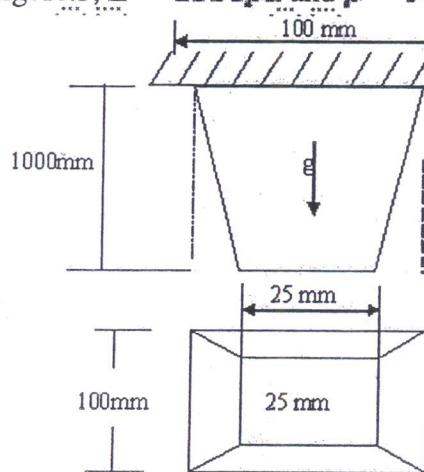

Figure.3
3. Determine the deflection at the free end under its own weight using three elements shown in figure.3,  $E = 200 \text{ Gpa}$  and  $\rho = 7800 \text{ kg/m}^3$ . [15]